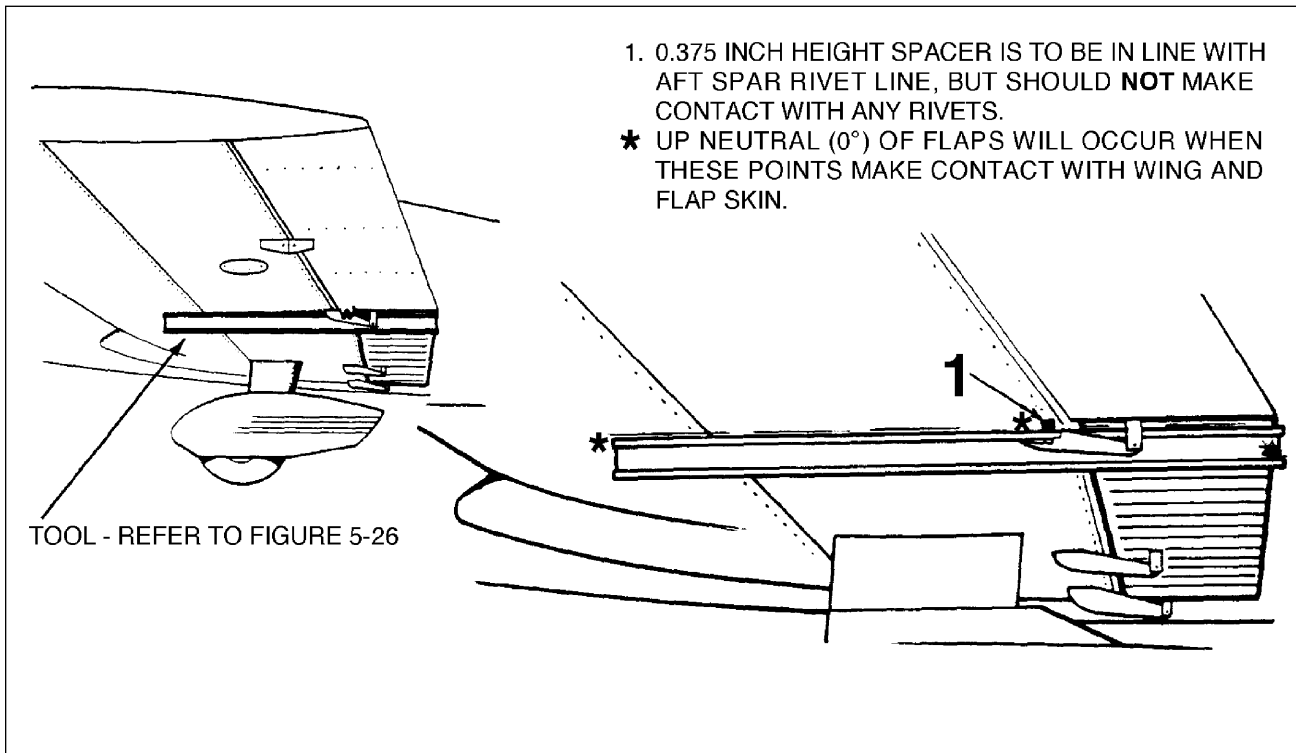

Figure 5-23. Flap Rigging Tool
- d. To check up (0° position) of the flaps, place a flap rigging tool as shown in Figure 5-23 against the underside of the wing and flap as close as possible to the outboard end of the flap without contacting any rivets. The tool must be positioned parallel with the wing ribs with the aft end of the tool even with the trailing edge of the flap. (This tool may be fabricated from dimensions given in Figure 5-26.)